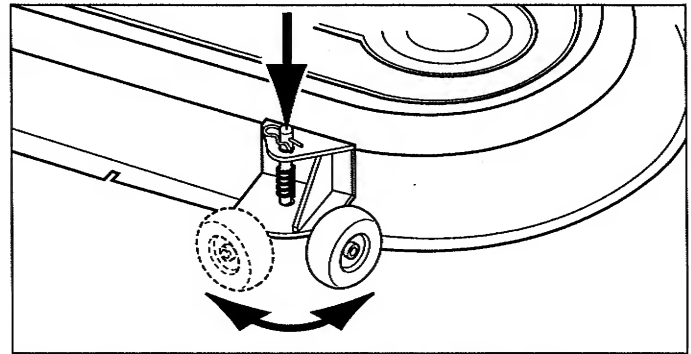

Figure 12. Gauge Wheels - 54" Models Only
1. Fully raise the attachment lift and rotate front gauge wheels (see Figure 12).
- Raise the attachment lift and rotate the front gauge wheels (Figure 12) into cutting position.